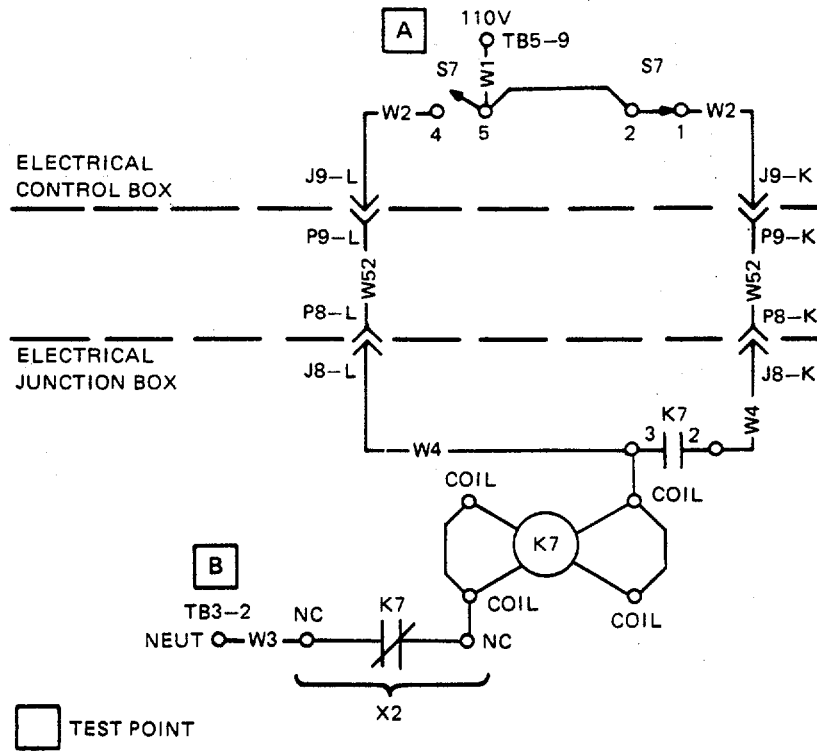

Figure 3-8. Chemical Feed Metering Pump Assembly Support Diagram
Ensure that all circuit breakers are set. Refer to figure FO-3 for schematic diagram and figure FO-4 for interconnection diagram. Refer to figure 3-1 for control box support diagram, figure 3-2 for junction box support diagram, and figure 3-8 for chemical feed metering pump support diagram.
Step 3. Shut down ROWPU. Refer to TM 10-4610-239-10. Shut down power. Refer to generator manual. Refer to chemical feed metering pump assembly support diagram figure 3-8. Hold CHEMICAL FEED PUMP switch in START position. Check continuity point-to-point between test points A and B through S7-5 and S7-4.
Step 4. Shut down ROWPU. Refer to TM 10-4610-239-10. Shut down power. Refer to generator manual. Set CHEMICAL FEED PUMP switch to RUN position. Refer to chemical feed metering pump assembly support diagram figure 3-8. Check continuity point-to-point between test points A and B through S7-2 and S7-1.